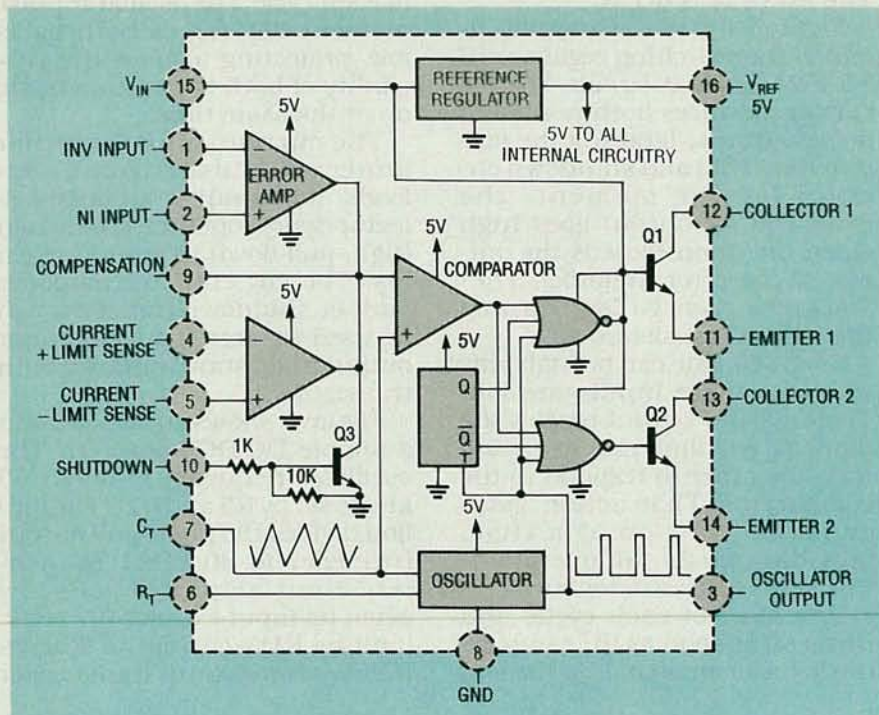

FIG. 1—INTERNAL BLOCK DIAGRAM of the SG3524 switching regulator IC.
Determine where your network interface is by locating the area where the phone line enters the house. In some cases, the device is mounted on the outside. It is a small box with a short wire loop connecting to a modular jack. Refer back to Fig. 1 on how to install a network interface if it's not already present. During the next few steps, your phone system will be inoperative until installation is complete.
Figure 1 shows the internal circuit of the switching regulator IC SG3524. In that circuit, the oscillator produces both ramp and pulse outputs. Ignoring the current limit (CL) and shutdown circuits for the moment, the comparator's output goes high when the ramp exceeds the output of the error amplifier. The NOR gates then go low, turning the output transistors off.